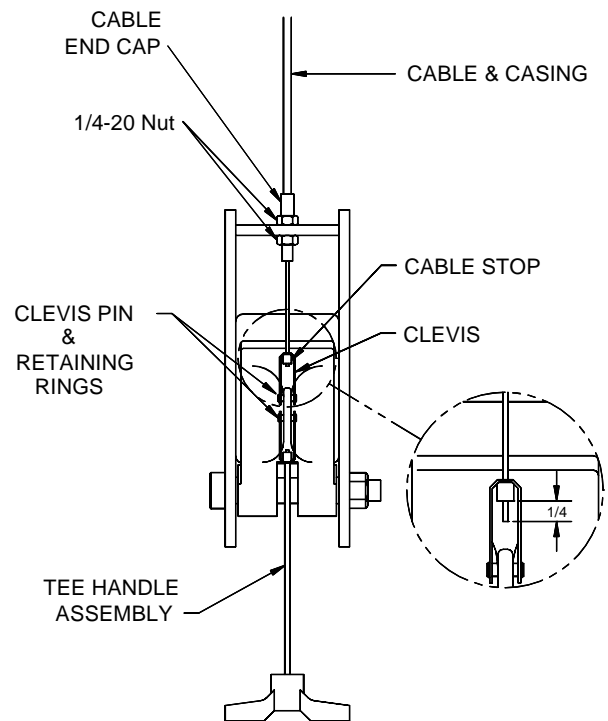

Fig 13
26. Attach the clevis to the top hole of the power side locking pawl using the clevis pin and retainer rings. The complete assembly of the power side should be as seen in **Fig 13**.
27. Attach the tee handle assembly to the bottom hole of the power side locking pawl using the clevis pin and retaining rings. The complete assembly of the power side should be as seen in **Fig 13**.